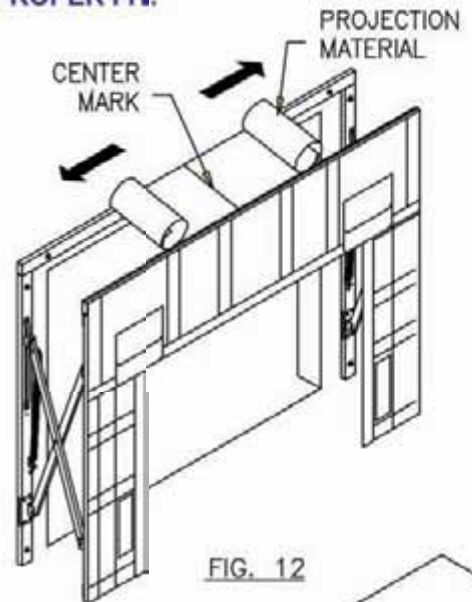

FIG. 12
- Release the projection material from the top center down both sides of the unit (fig. 12).